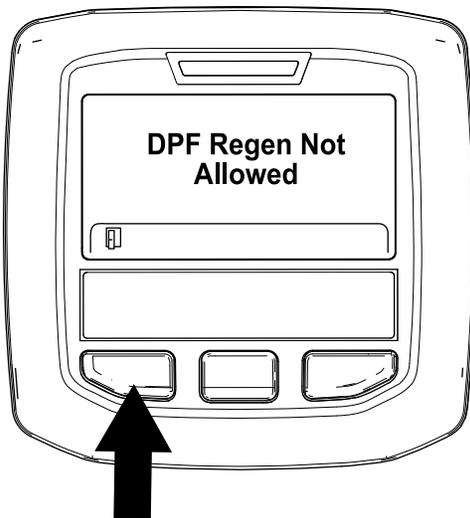

Figure 45
- If the regeneration process is not allowed by the engine computer, the “DPF Regen Not Allowed” message displays in the InfoCenter (Figure 45). Press the left button to exit to the home screen